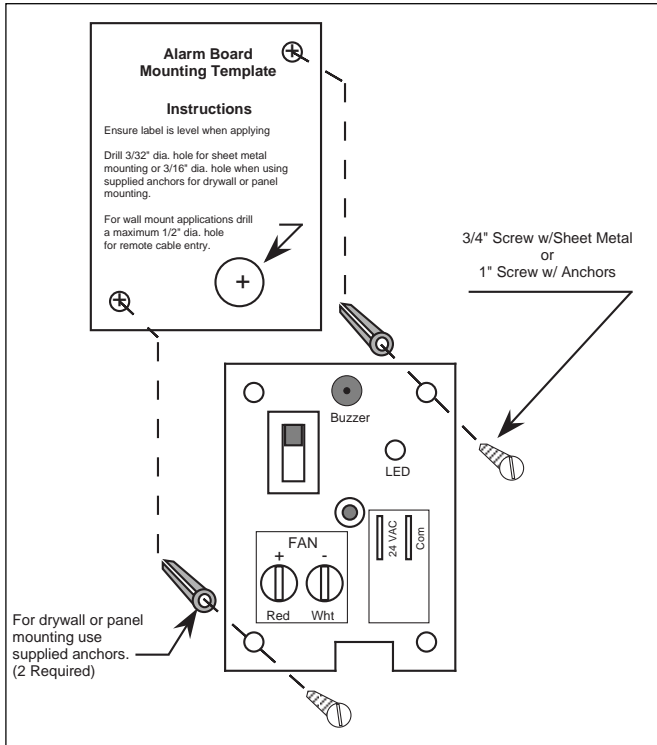

Figure 3.
- Mounting of the lower alarm circuit board using the supplied template is recommended to ensure proper alignment of the holes. Drill the appropriate diameter holes for the application at the two designated locations shown. Drill 3/32" holes for sheet metal mounting or 3/16" holes for drywall or panel mounting (See Figure 3).